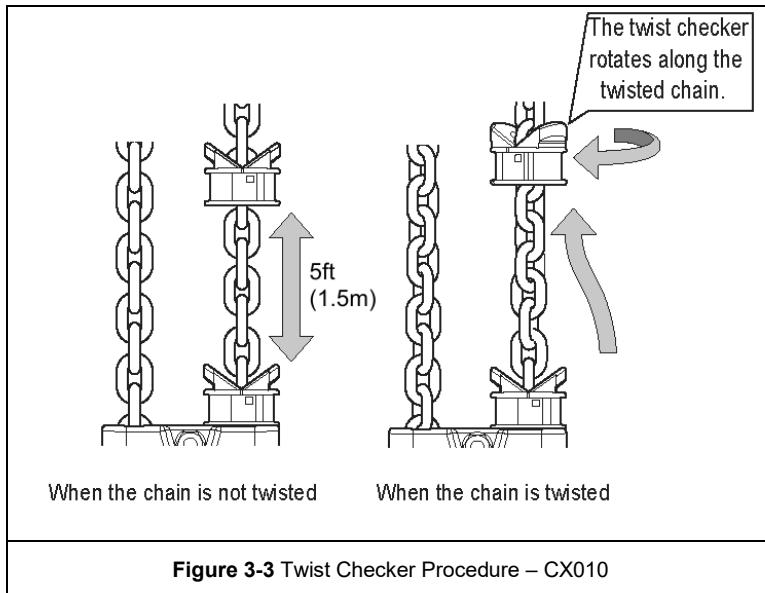

Figure 3-3 Twist Checker Procedure – CX010
- 3.1.2 A twist checker comes installed on the 1 ton CX010 hoists (see **Figure 3-3**). To check for chain twists, lower the bottom hook to its lowest position, hold the twist checker lightly so that it rotates freely and move it up and down the chain 5 feet (1.5 meter). If the twist checker rotates according to **Table 3-1**, then it means the chain is twisted and needs to be fixed. For example, if the hoist's lift length is 10ft long and the twist checker rotates 180 degrees when you move the twist checker up/down 5 ft, the chain is twisted and needs to be fixed.